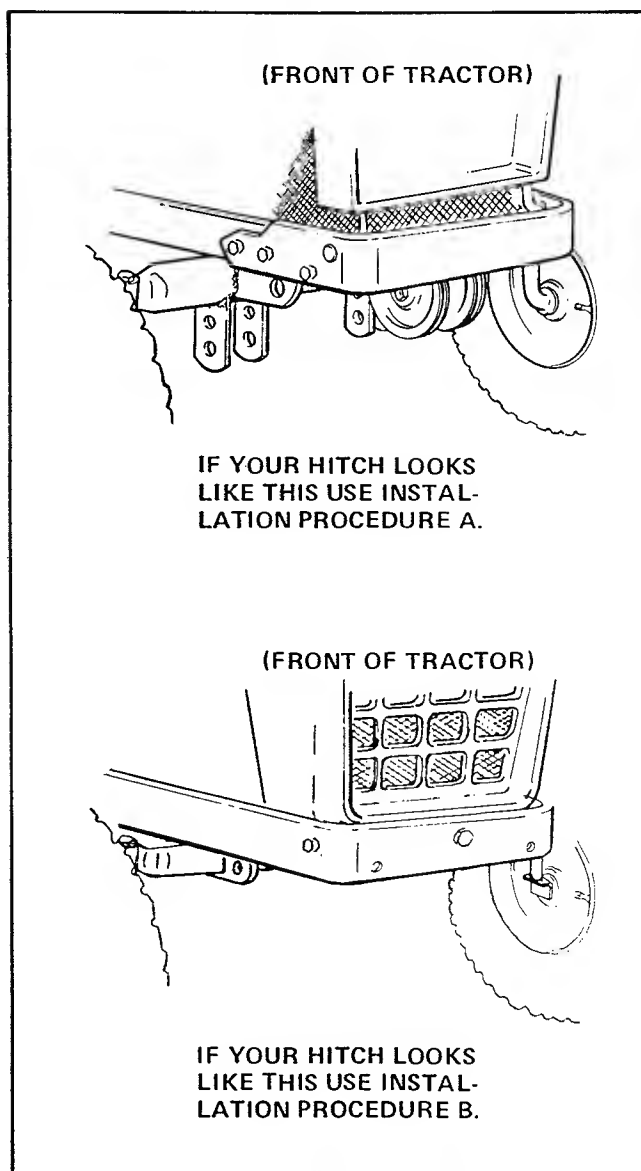
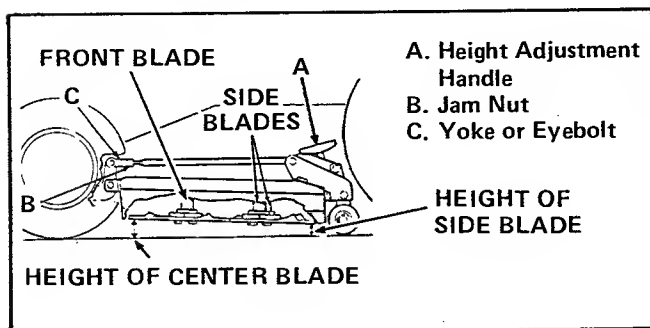
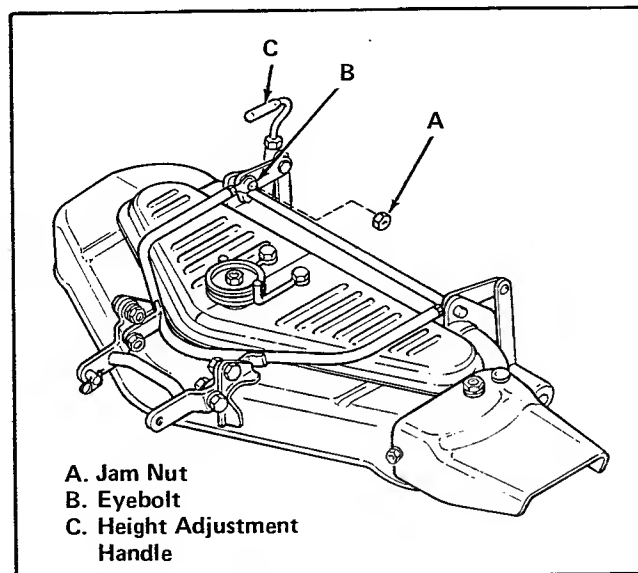

Figure 1. Front Tractor Hitch
Figure 10. Level Mower
Figure 11. 36" Mower
Two separate installation procedures are provided. Selection of the procedure that you should use is easy. Simply compare figure 1 to the hitch brackets at the front of your tractor.
2. Turn both mower height adjustment handles (item A, figure 10) fully clockwise. The 36" mower has only one handle.
3. Rotate the mower blades so the tips point straight forward and backward, as shown in figure 10.
- a. Loosen jam nuts (item A, figure 11).
- b. Disconnect eyebolts (B) from rear bracket.
- a. Loosen jam nuts (item B, figure 10).
- b. Disconnect the yokes or eyebolts (C) from the mower hitch.
8. If the tractor you are using has two sets of mounting holes in the front tractor hitch, as shown in figure 1, the PTO lever must be adjusted. Refer to tractor manual.
The cutting height is adjusted by turning the two cutting height handles (item A, figure 10) equal amounts in the same direction. The 36" mower has only one handle (item C, figure 11). In either case, the cutting height can be adjusted anywhere within the mower's full range. The adjustment is best made above a hard level surface. To prevent early belt failures, never operate the mower unless the lift lever is completely lowered. Never use the lift lever for height adjustments.